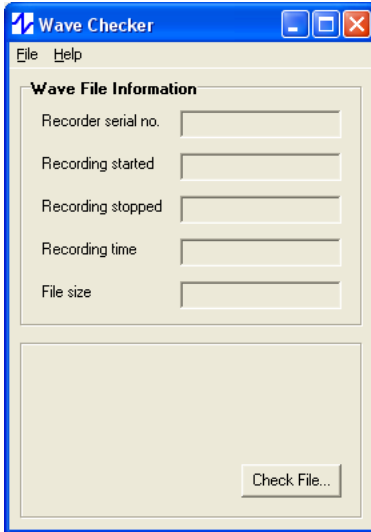

Fig. 1. The Wave Checker dialog box.
1. Double-click the Wave Checker.exe file. The **Wave Checker** dialog box (Fig. 1.) displays.